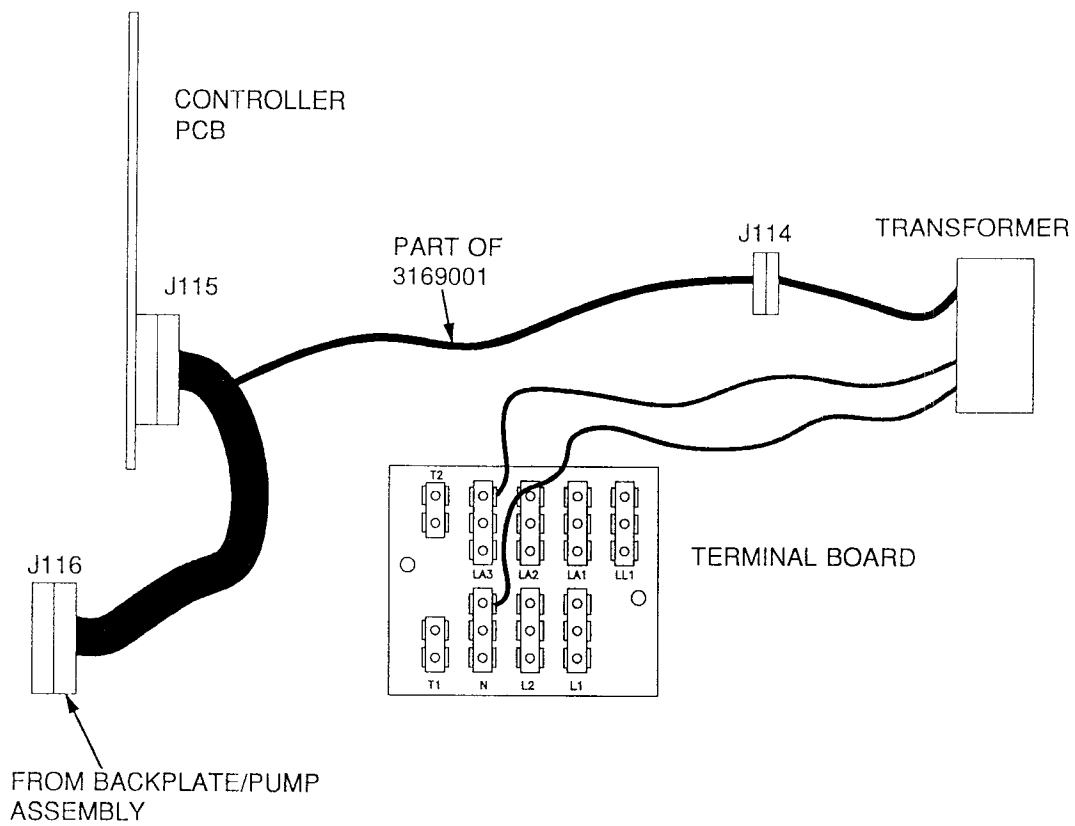

Figure 11. Final Control Box Electrical Connections
34. Install the new controller PCB assembly. See figure 11. Connect the harness from the back plate pump assembly to the controller and transformer as shown. Connect the rest of the wires to the controller board.